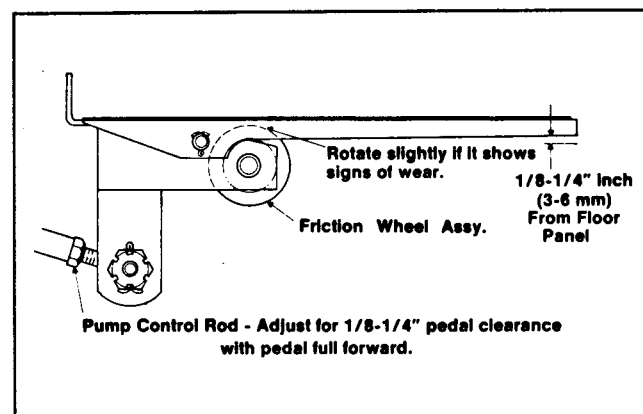

Figure 18
2. With the engine OFF, depress the traction pedal fully. There must be a 1/8 - 1/4 inch (3 - 6 mm) gap between the inside, top front edge of the traction pedal and the floorboard (Fig. 18). If the distance is as specified, the control rod is adjusted correctly. If the distance is not as specified, proceed to step 3 for adjustment procedures.